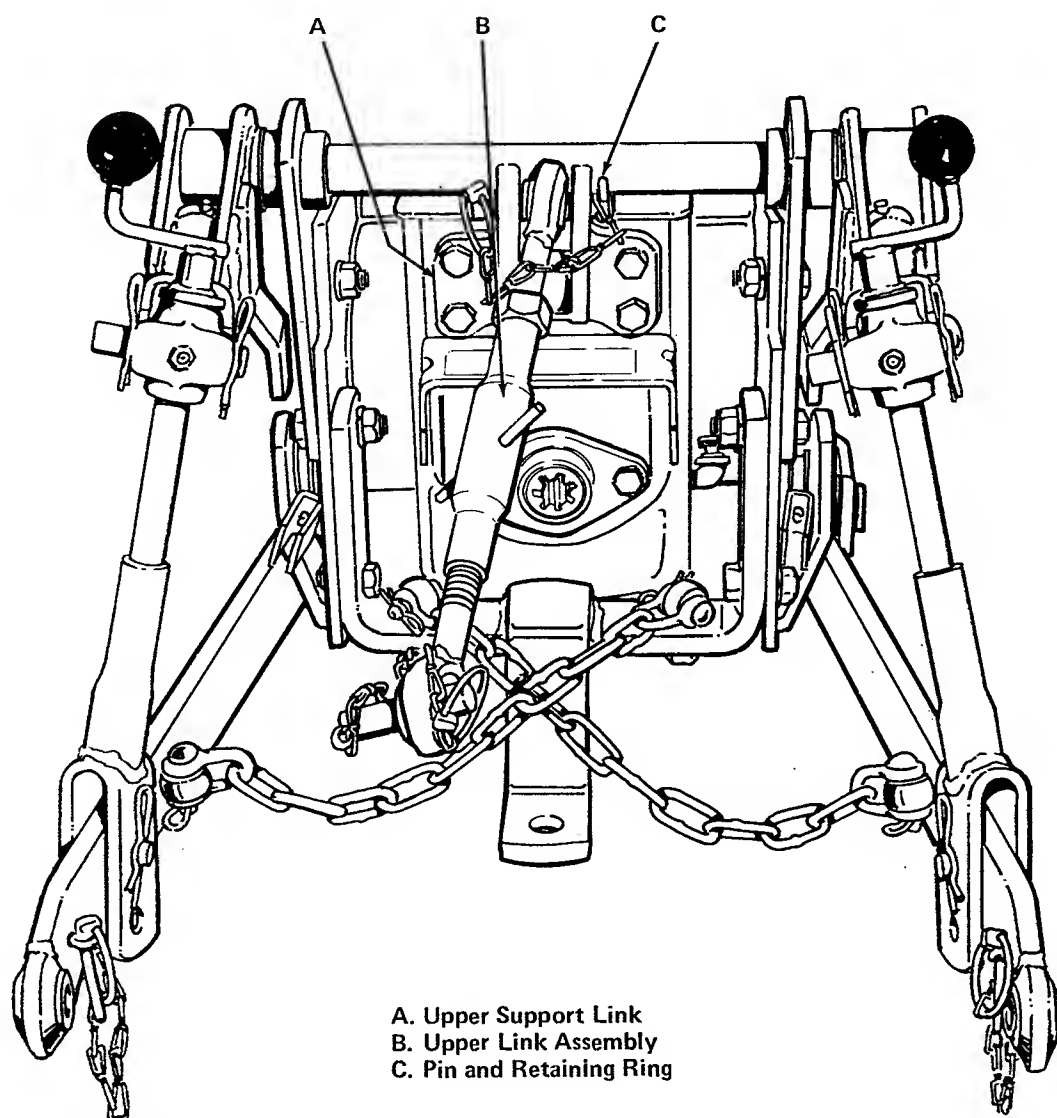

Figure 11. Upper Link Assembly
20. Install upper support link (item A, figure 11) using four new capscrews (shortest in bag).